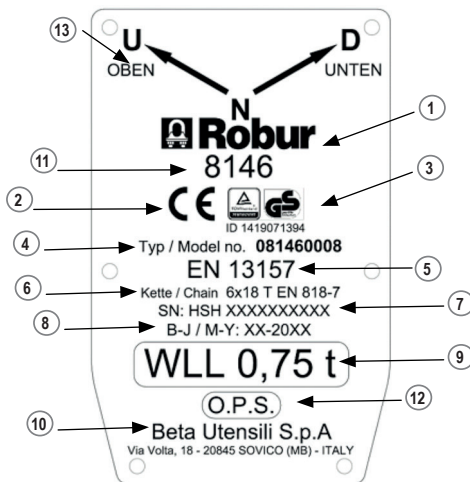
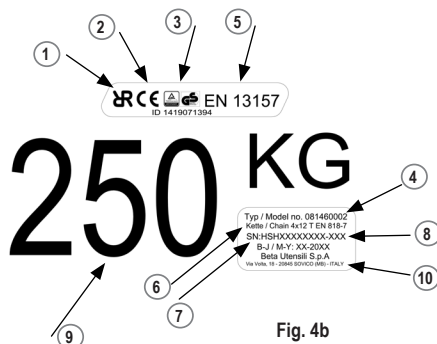

Fig. 4a
Fig. 4b
All the information of the hoist are contained on a fixed nameplate (Fig. 4a - Fig.4b).
** For lifting heights other than those stated in the technical data table, the model number stated in the data plate (Fig. 4a and Fig. 4b) is always the one relating to the model with the TÜV-tested lifting height, 1.5 m. In these cases, an additional data plate is applied near the lower limit stop. The lifting height and thus the chain length are irrelevant to compliance with the standard.